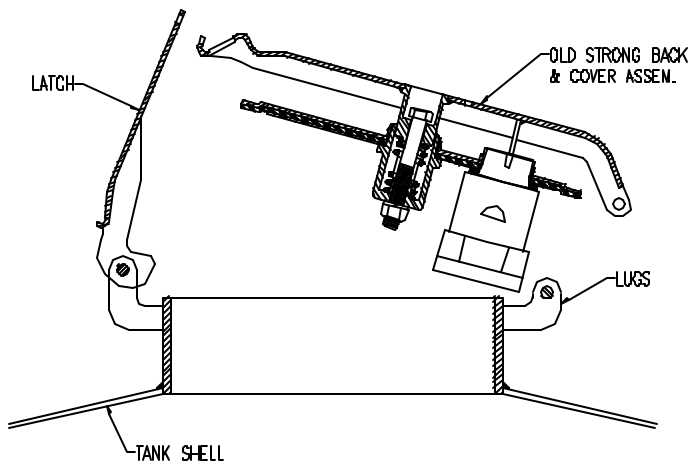

FIG. 1
1. Remove existing strongback and cover. (Fig. 1) Do not remove latch. (Some models may require spot welds to be ground from the hinge pin to remove strongback. Use caution - do not damage lugs.)